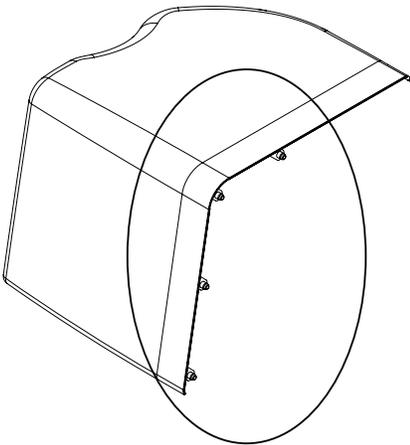
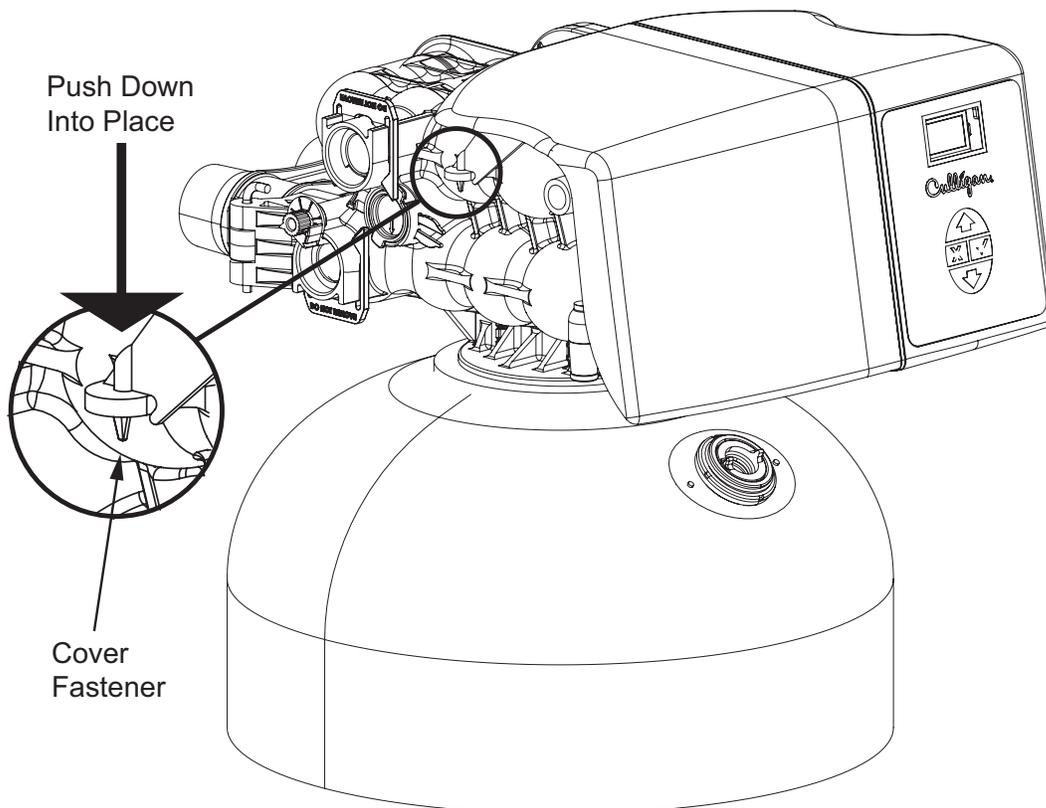

Figure 9. Cover fastener clip.
Figure 11. Reattaching the cover fastener.
Once the drain and brine line is connected re-attach the cover. Refer to the below instructions and Figure 9 through Figure 11.
3. Attach the cover fastener onto the control valve. See Figure 11.